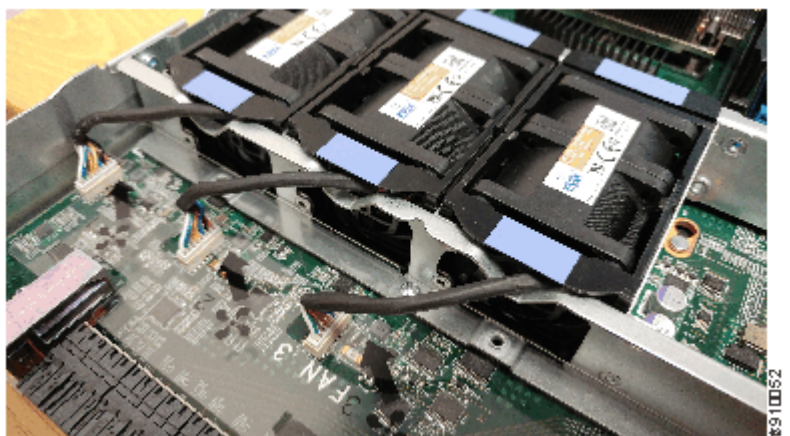

Figure 106. Aligning the cable connector
8. Install the replacement fan module into the vacant fan slot. The cable must face toward the canister front. Be careful to ensure the connecting cable passes over the air dam at the V-shaped indent, as shown in Figure 106 on page 144. Ensure that the cable is not caught under the fan module.